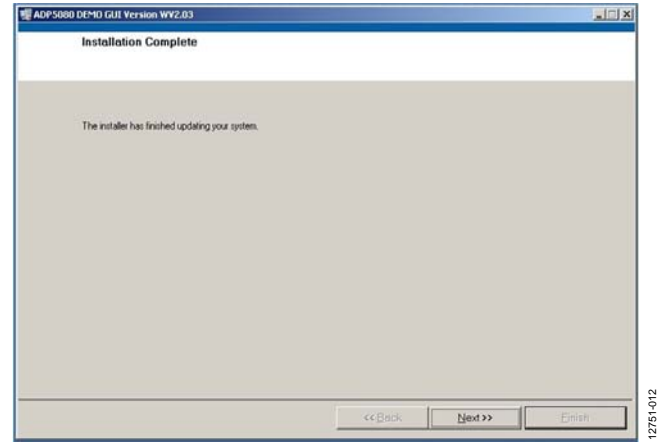

Figure 16. **Installation Complete** Window
- Click **Next** and then **Finish** to complete the GUI software installation (see Figure 16).